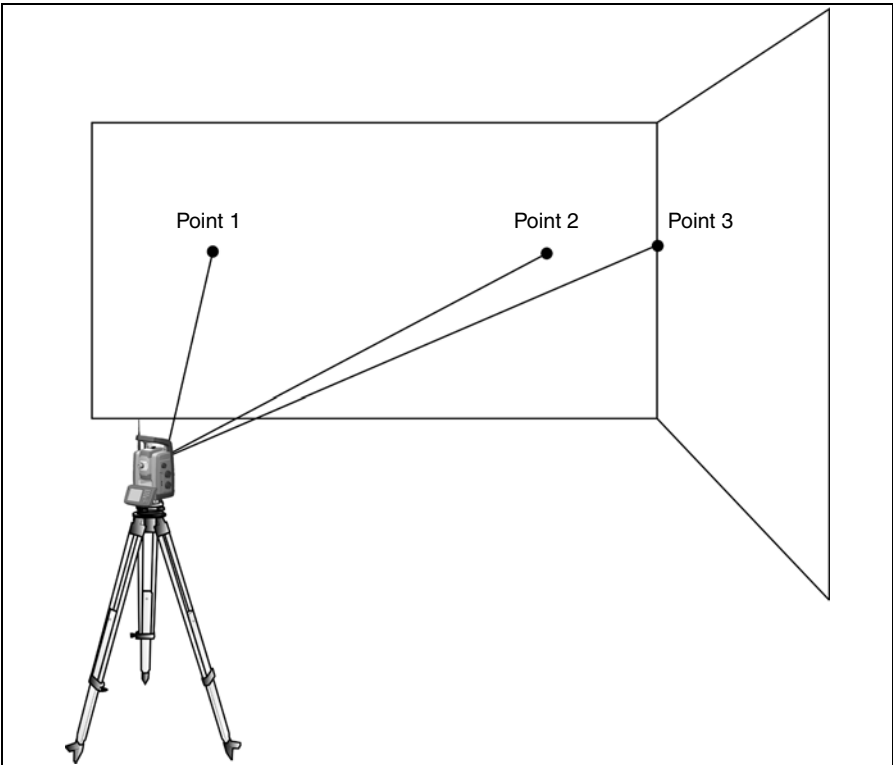

Figure 6.54 Offset measurement
2. Aim the instrument at the corner to store the correct horizontal and vertical angle. See figure 6.54